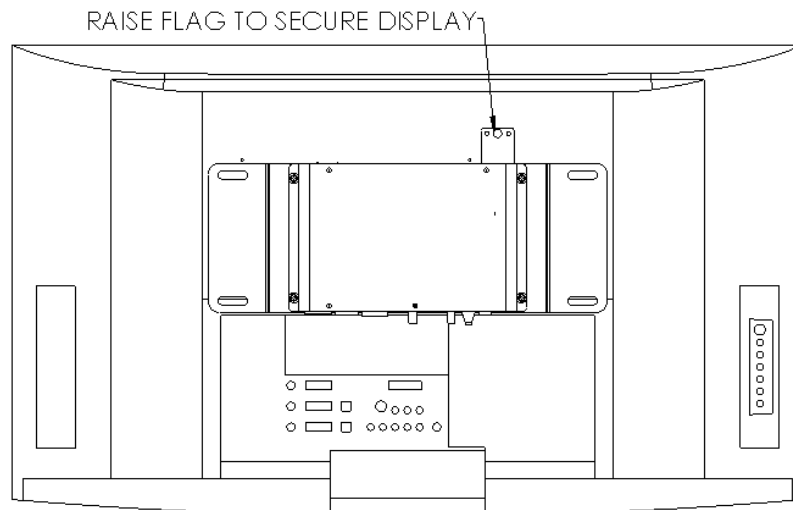

Figure 6
7. With the aid of another person, lift the display up to the mount, align the mounting buttons on the display with the teardrop slots in the mount, and set the display into place (see Figure 6).